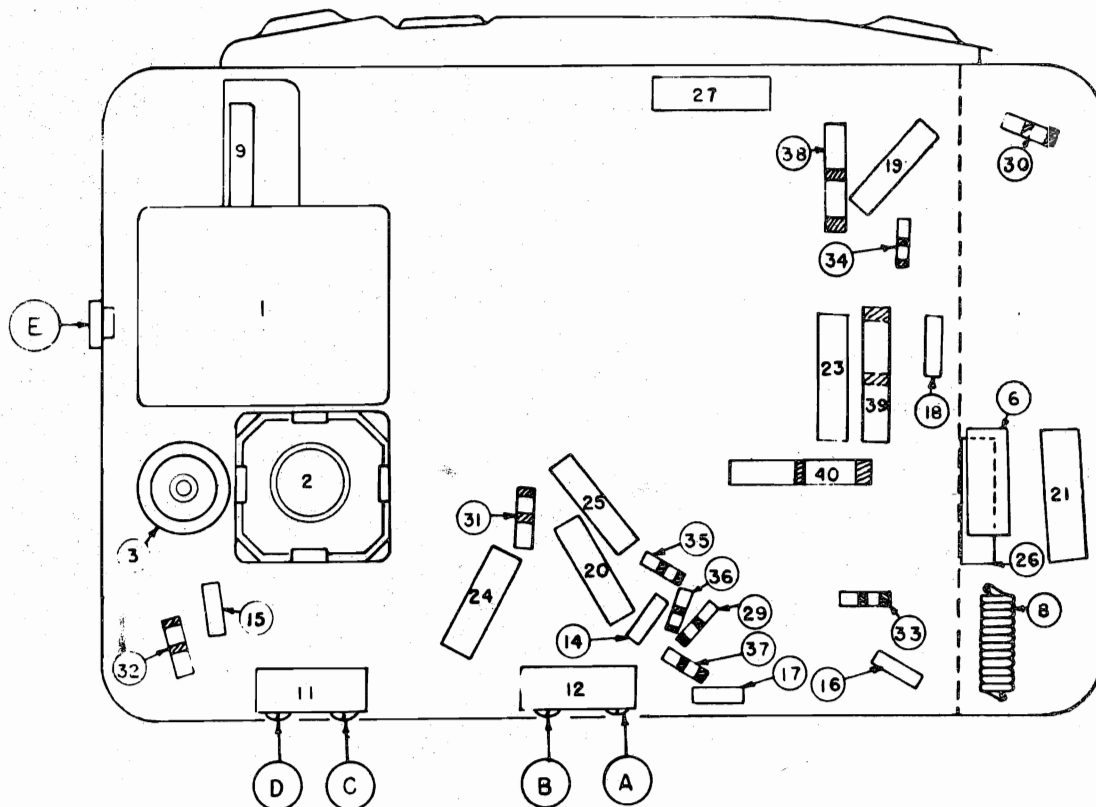

FIG. 4--PARTS LAYOUT--Bottom View
- Adjust the antenna trimmer (illus. G, Fig. 4) for maximum volume.
- (d) Adjust the trimmer (illus. E, Fig. 4) for maximum output.